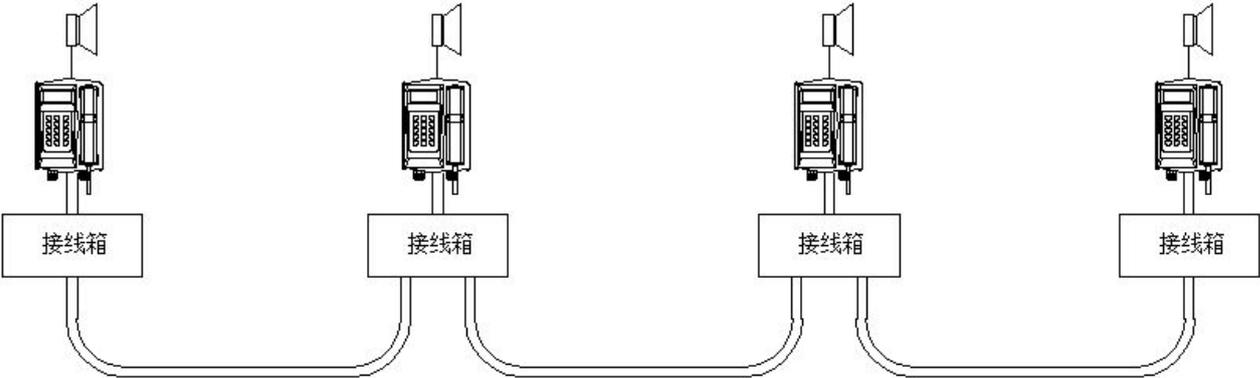

Figure 8
4.3.4 All the terminals power ground wire must be connected to the grounding line when connected,as shown in Figure 8